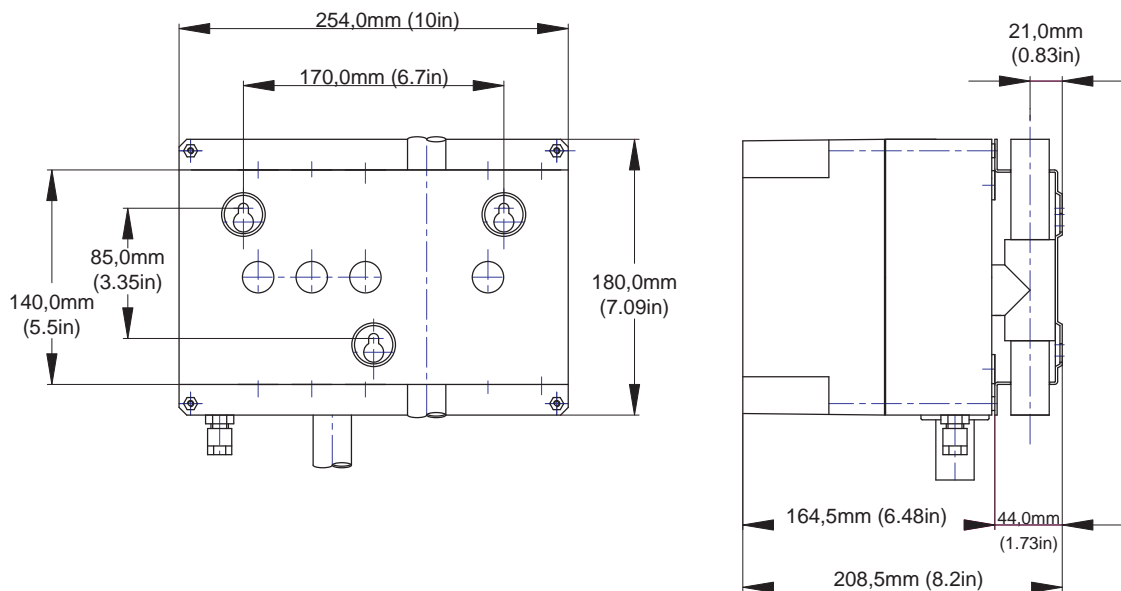

Figure 2-1: IFT-P Mounting Diagram and Dimensions
1. Securely mount the back box to a suitable wall or support using the three points shown in the mounting diagrams. Refer to Figure 2-1 for further information. M6 or M8 screws are suitable.